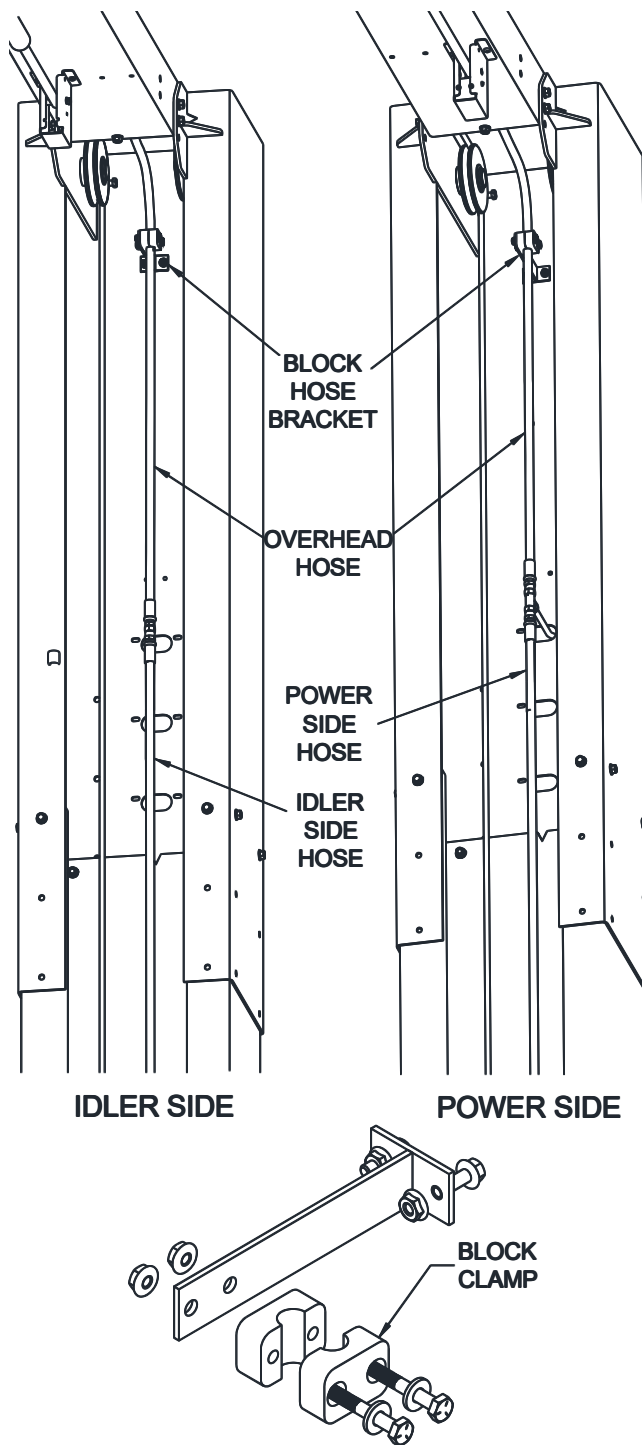

Fig. 12 – Hose Mounting
- 33) Install the block hose clamp bracket onto both column extensions using 1/4"-20NC x 3/4" lg. hex flange bolt and nut, see **Fig 12**.
- 34) Uncoil the Idler Side hose and Overhead hose and attach them together. Route the loose end through Idler Side column extension as shown in **Fig 12**.
- 42) Tighten the three hose fitting connections at the Tee taking care not to twist or change the lay of any hose. Install and tighten the block clamp on the power side to hold up the connect to the tee, see Fig 12.